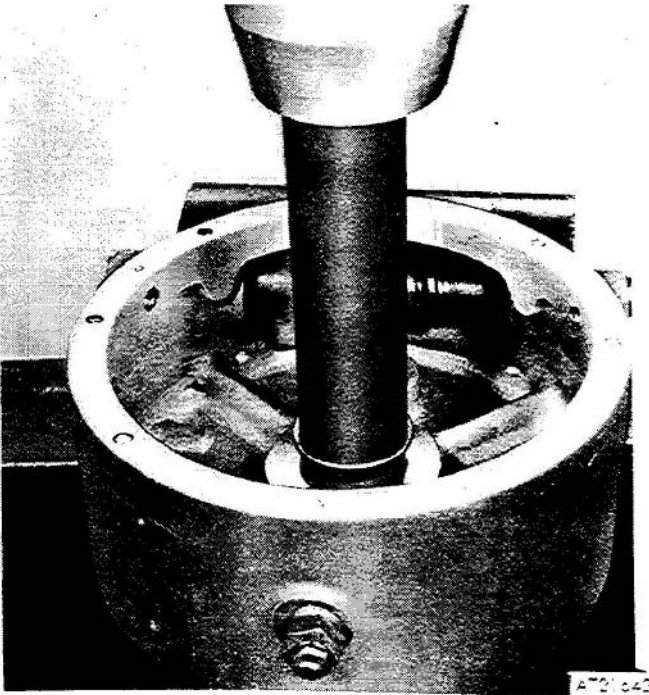

Figure 4-18. Pressing bushing into gear housing.
(6) Connect brake housing gasket (21) and safety brake housing (20) to gear housing (6) and secure with screw (22).
(7) Position key (19) in worm input shaft (7) and connect hub (18) on shaft.
(8) Position balls (17) on hub (18) and connect cam (16) to worm input shaft (7), making sure balls are aligned with slots marked "2". Position disc (15) on worm input shaft.
(9) Position spring (13) between alignment screws in safety brake cover (11). Position retainer plate (14) on screws in cover.
(10) Connect cover gasket (12) and assembled safety brake cover (11) to safety brake housing (20) and secure with screw (10).
(11) Insert screw (8) and nut (9) in safety brake cover (11).
(12) Press bushing (18, fig 4-4) into gear housing (9) as shown in figure 4-18.